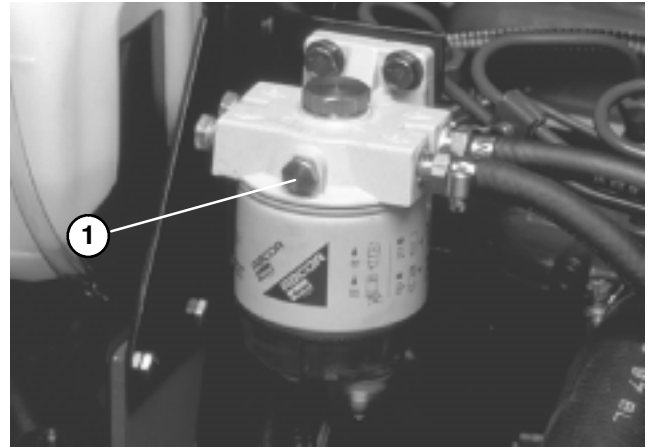

Figure 29
BLEEDING FUEL SYSTEM (Fig. 29 – 31)
2. Loosen air bleed screw on top of fuel filter/water separator (Fig. 29).